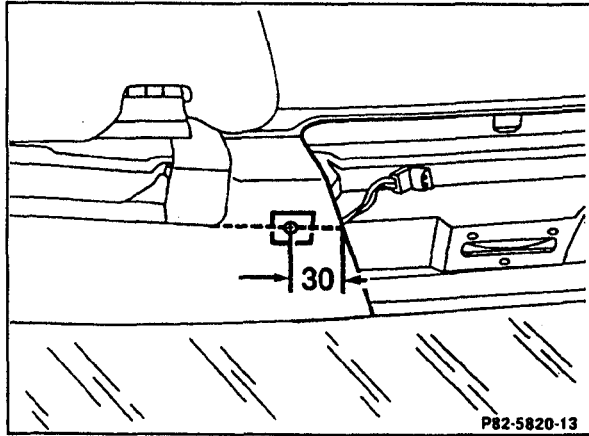

Figure 13
3. Measure over 30 mm from left edge of opening and carefully punch a small hole using an awl (Figure 13).